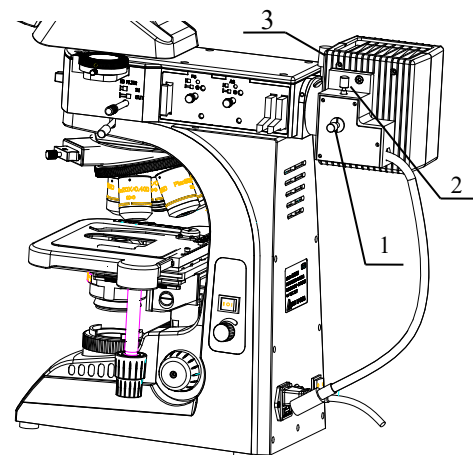

Fig.17
3. Front-back adjustment of condenser by moving sequence 3 forward and backward, it can make field illumination uniformity, filament image can't be observed in the field of view of eyepiece (figure 17).